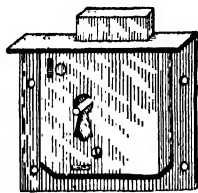
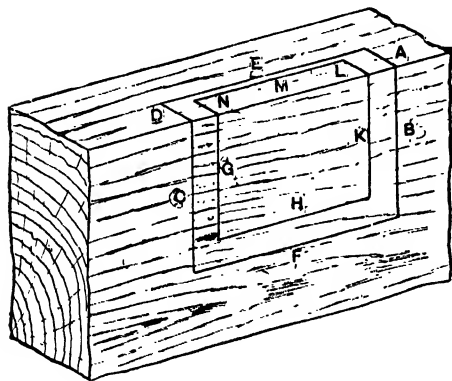

Fig. 430.—Till or Drawer Lock.
Fig. 433.
**Fitting Till or Drawer Locks.**—A till or drawer lock (Figs. 430 to 432) presents some difficulty to inexperienced workers, but by taking each detail singly, and being careful to do each correctly, a neat job can be made. First ascertain the centre of the drawer front and mark it lightly with a pencil. The length of the flanges of the lock should be measured carefully, and this distance marked off on the top edge of the drawer; then the lines are squared on the edge and down the inside, as shown at A, B, C, and D (Fig. 433). Take care, of course, that the centre of the keyhole
Figs. 433 and 434.—Fitting Till or Drawer Lock.